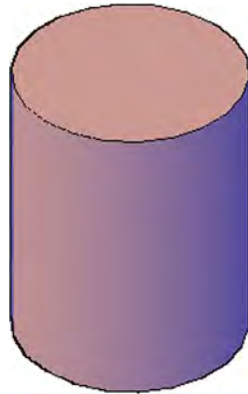

FIGURE 23.22
- Step 4.** Drag your mouse up (or enter a value) and the cylinder shape is automatically extruded, as seen in Figure 23.22.